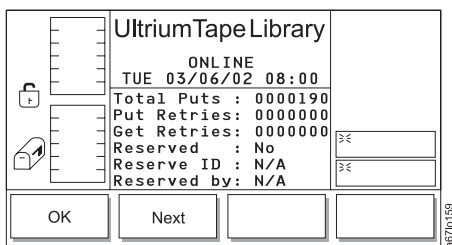

Figure 4-34. Put/Get Information
5. To view information about put and get operations for the slot, press the button below the **Next** softkey. The Put/Get Information screen displays (see Figure 4-34).